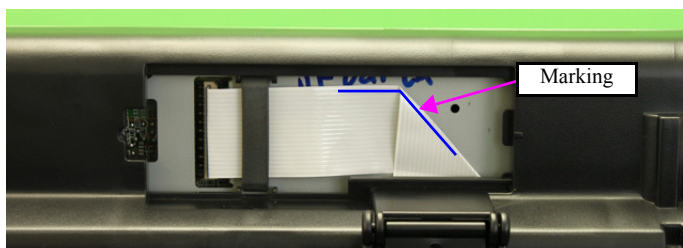

Figure 9-47. Routing the Panel FFC
- Fold the Panel FFC at the fold line, and route it through the marking on the Panel Shield Plate. (See Fig. 9-47 (p.311).)